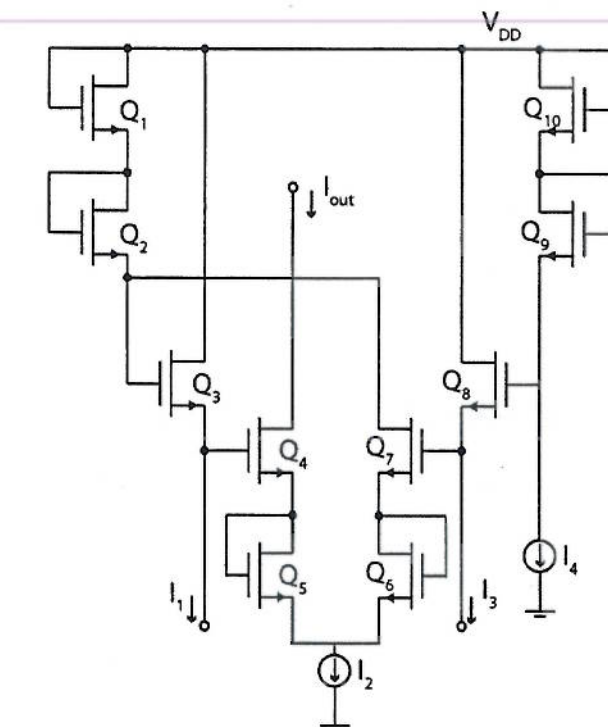

Figure 2.1
b) Figure 2.1 shows a translinear circuit.